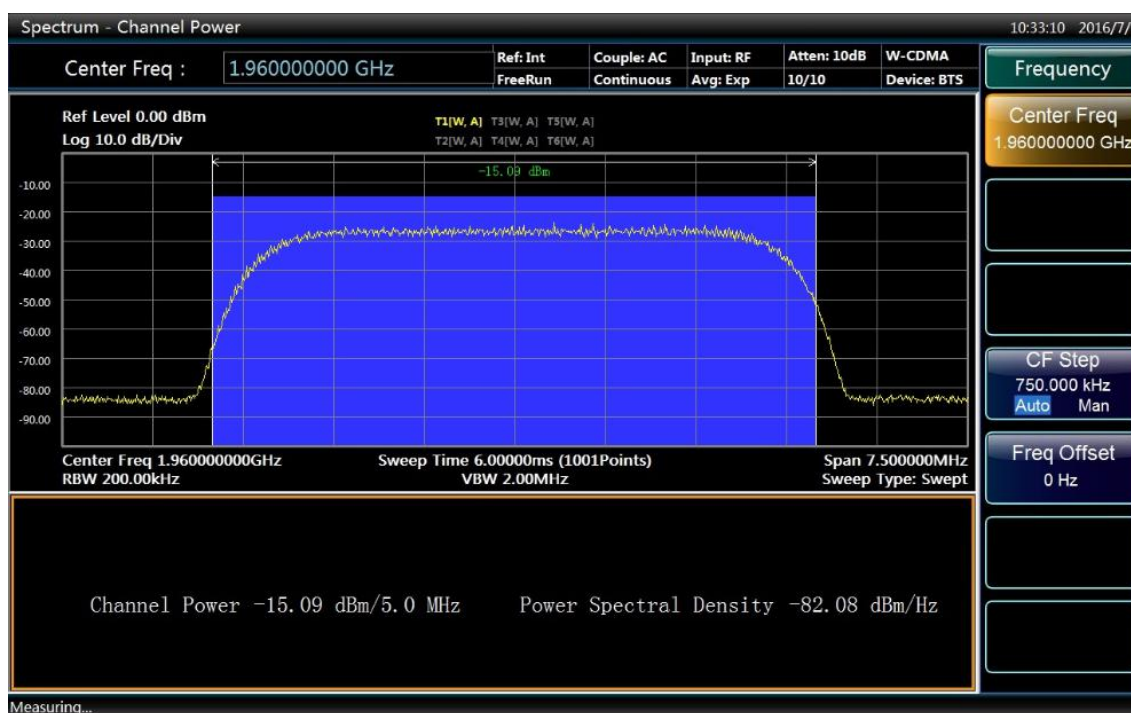

Fig 4.62 Results of channel power measurement
- Results of channel power measurements are shown in Fig. 4.62. Graphics window and text window display the absolute power value and average power spectral density in channel bandwidth.